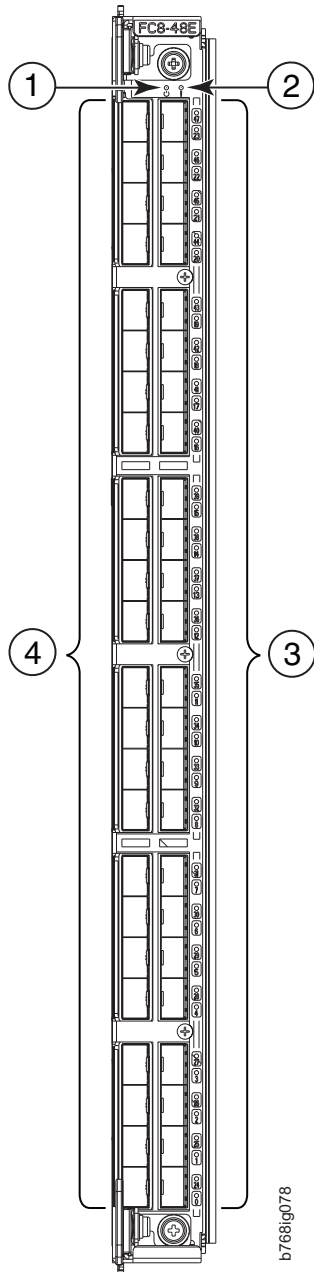

Figure 58. FC8-48E port blade
- Figure 58 on page 182 shows an FC8-48E port blade